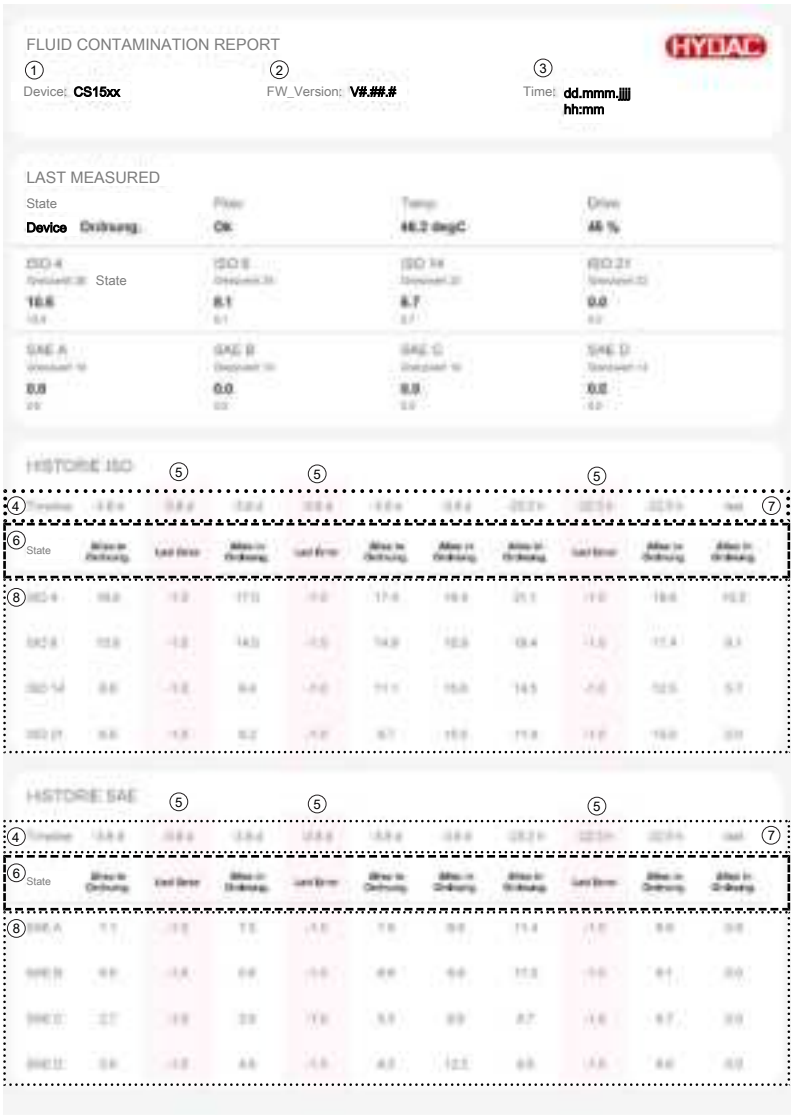

Fig. 17: View report
- Creates a measured value report as a PDF to be downloaded/saved, for details, see ►Fig. 17, p. 45.